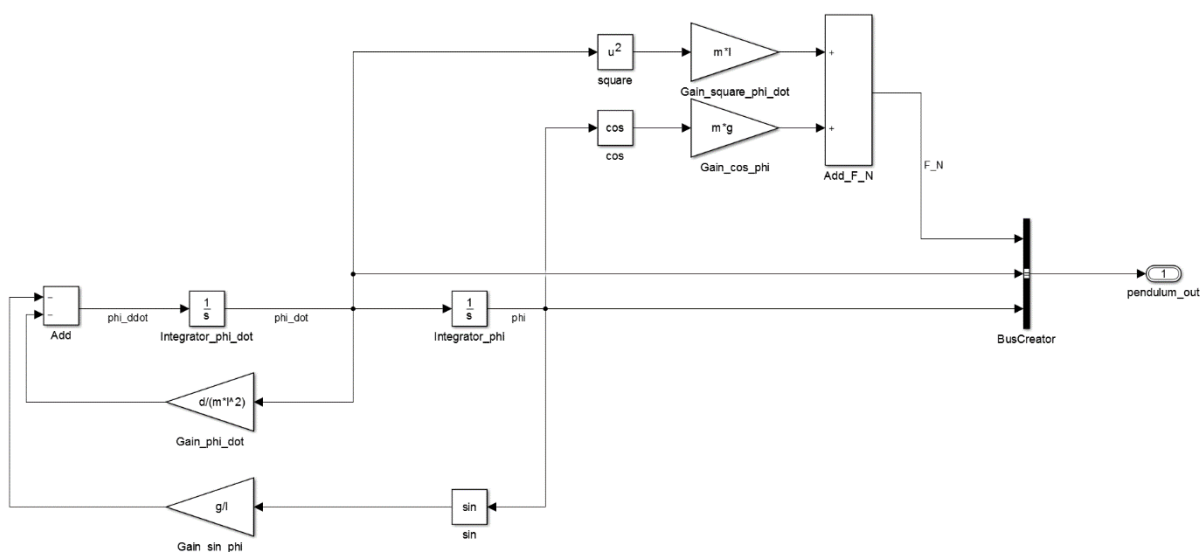

Figure 2-2: non-linear pendulum model
(6) Connect the blocks to model the non-linear system equation. An example for this is given in Figure 2-2. Make sure to name the signals `F_N`, `phi_ddot`, `phi_dot`, and `phi`.